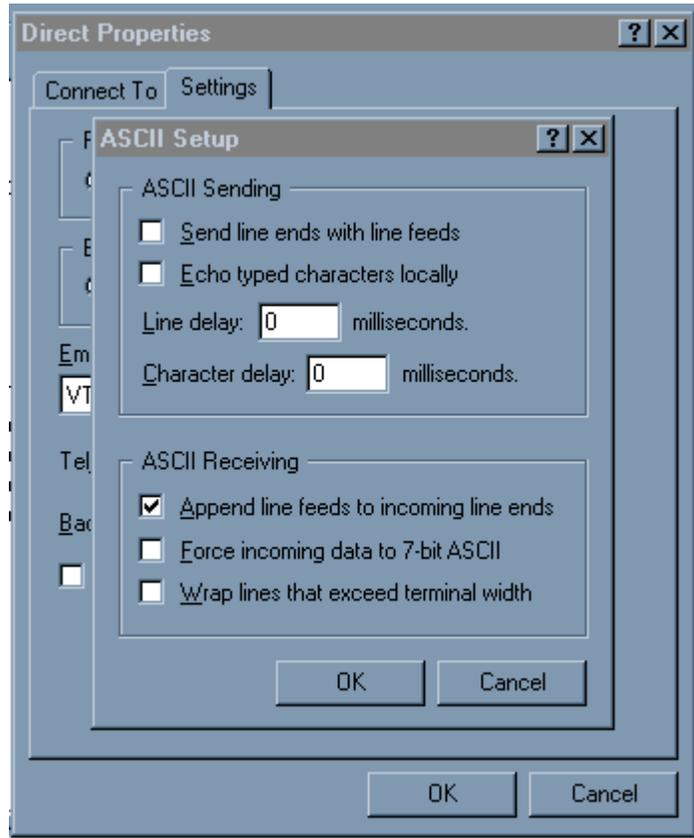

Figure 5-6. ASCII Setup Box
7. Click on “ASCII Setup...”. Match the settings with those in Figure 5-6. Click OK.